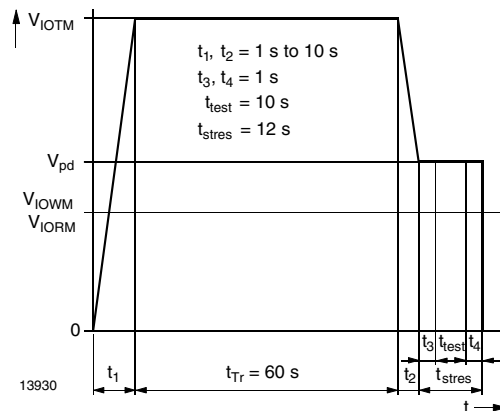

Fig. 2 - Test Pulse Diagram for Sample Test According to DIN EN 60747-5-2 (VDE 0884); IEC60747-5-5
- According to DIN EN 60747-5-2 (see figure 2). This optocoupler is suitable for safe electrical isolation only within the safety ratings. Compliance with the safety ratings shall be ensured by means of suitable protective circuits.